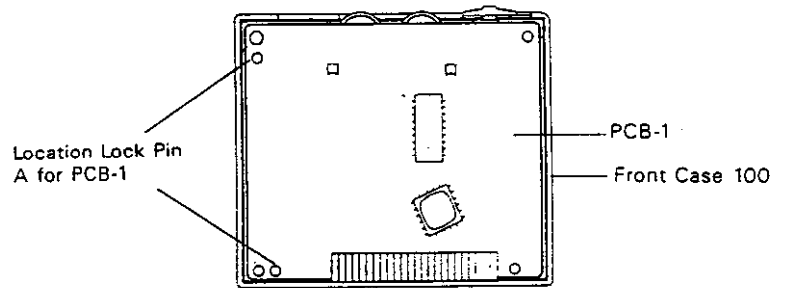

Fig. 2
3. Hold rear case (200) side and pull out front case (100) in the vertical direction to remove from front case, Fig. 2
1. Remove the Video Circuit PCB(PCB-1) from the two location lock pin (A), Fig. 2